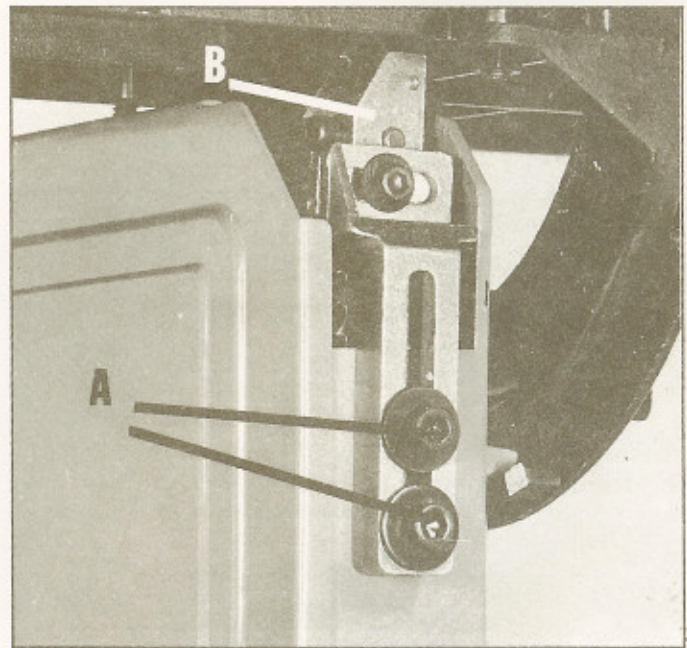

Fig. 18
NOTE: When tilting the table to the full 45 degree bevel angle it is necessary to loosen the two screws (A) Fig. 18 and lower the lower blade guide assembly (B). After returning the table to the zero position always raise the lower blade guide assembly (B).